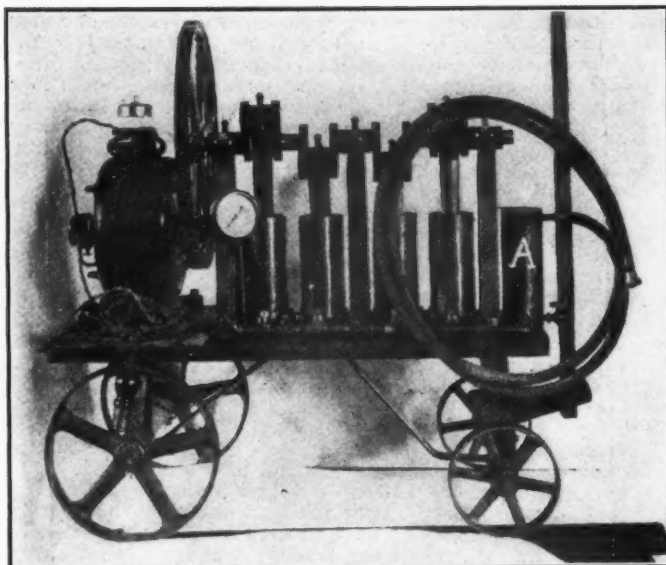

Fig. 3—Loppacker four-cylinder motor for compressing air mounted on wheels for use in a public garage
**Eureka Air Compressor**—The A. Loppacker Auto Machine Works, Bloomfield, N. J., manufactures a four-cylinder reciprocating motor for compressing air. Fig. 3 shows the compressor mounted on wheels. This device is actuated by an electric motor of .25 horsepower operating on either alternating or direct current. The compressor works on the principle of a four-cylinder automobile motor, each cylinder drawing in and compressing air into a standpipe and thence into a filter and then through an 8-foot hose with an acorn connection to the tire. The compressor has a 2-inch bore and